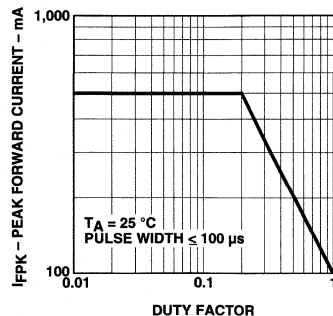

Figure 5. Maximum Peak Forward Current vs. Duty Factor.
- Any pulsed operation cannot exceed the Absolute Max Peak Forward Current as specified in Figure 5.